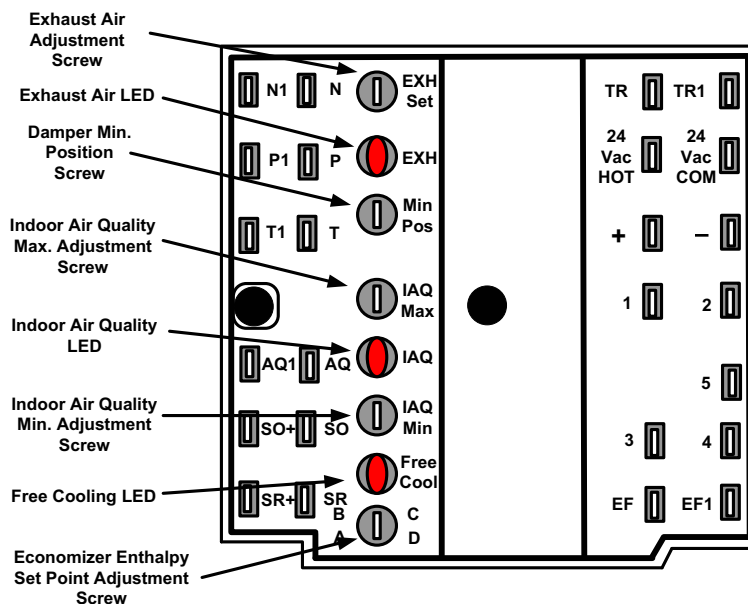

Figure 27: Honeywell Economizer Control W7212
- For a single enthalpy operation carefully turn the set point adjusting screw (found on the damper control module) to the "A", "B", "C" or "D" setting corresponding to the lettered curve of the Enthalpy Set Point Adjustment Figure 27.